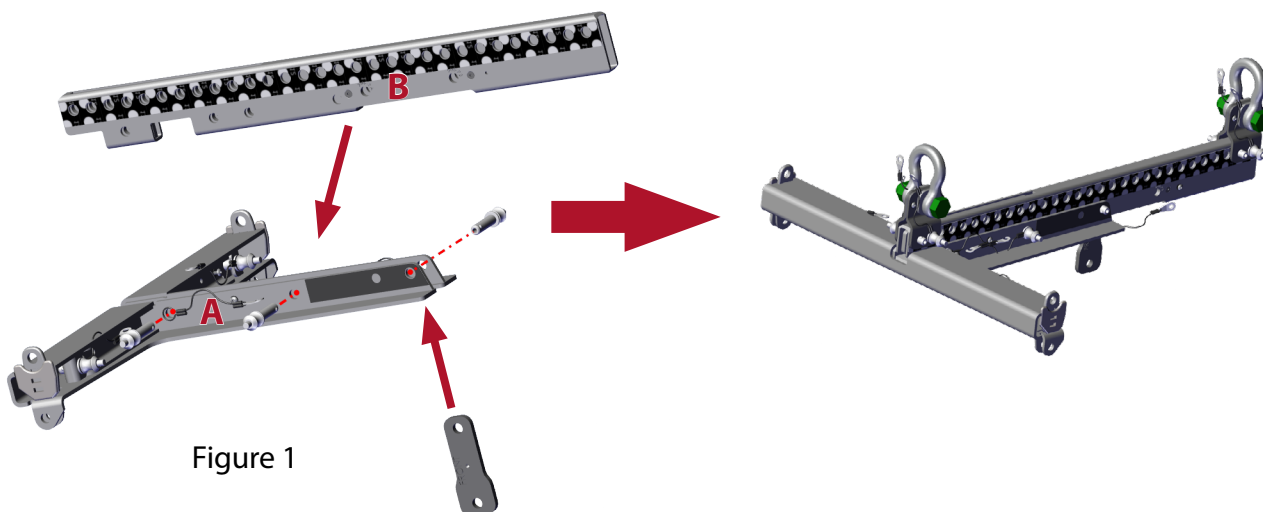

Figure 1
- Choose orientation of stinger (B) and insert into frame (A). Secure in place using pins on flybar frame. Insert Link Bracket into Flybar Frame. Secure in place using pins on frame (Figure 1). Choose either one pick point or two as defined by the online app or Resolution software, and connect shackles to stinger.